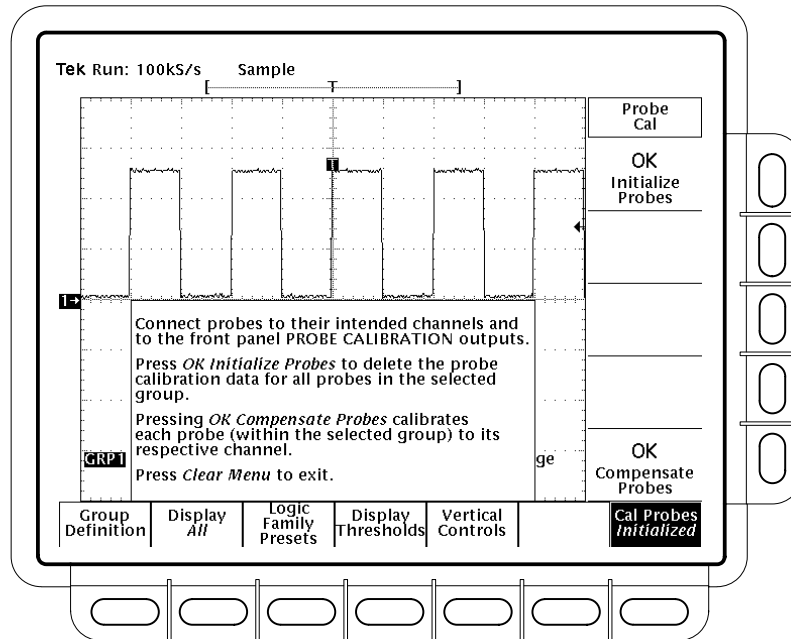

Figure 3-24: Probe Cal Menu and Probe Cal Display
12. After the clock icon disappears, verify the word *Initialized* changed to *Pass* under *Cal Probe* in the main menu. (See Figure 3-24.)